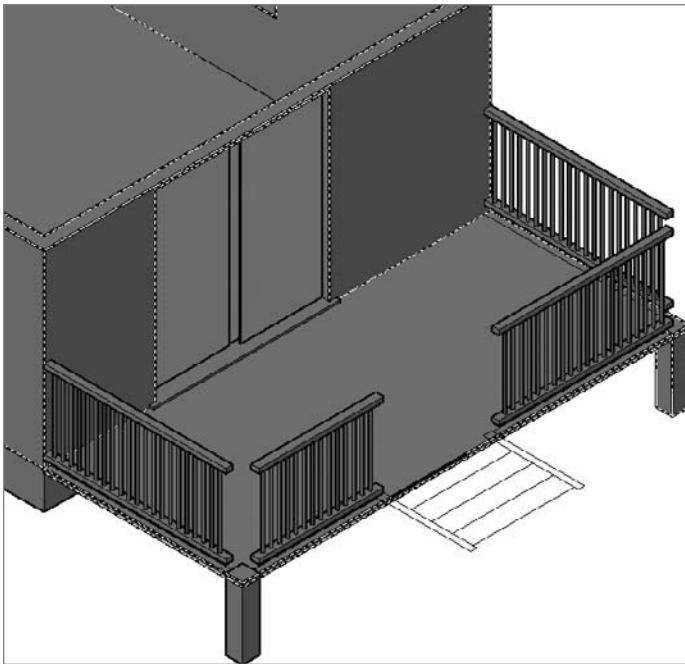

FIGURE 16.58 The completed railing posts
9. Repeat steps 5 through 8 to draw the posts along the front of the deck, adjusting the count and the direction appropriately; then copy the posts from the left side of the deck to the right. Add any new post as required. The completed railing posts should look like those shown in Figure 16.58.